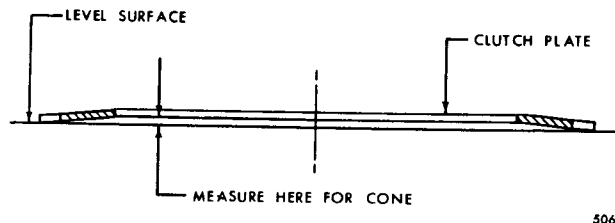

Fig. 4-4. Method for determining cone of clutch plate
(1) Inspect the friction-faced plates for burs, imbedded metal particles, severely pitted faces, excessive wear, cone, cracks, distortion, and damaged spline teeth. Remove burs, using a soft honing stone. Replace plates which have other defects.
(2) Inspect steel plates for burs, scoring, excessive wear, cone, distortions, imbedded metal, galling, cracks, breaks, and damaged tangs. Remove burs and minor surface irregularities, using a soft honing stone. Replace plates which have other defects.
(3) The amount of cone is determined by measuring the distance between the inside diameter of the plate and a level surface (fig. 4-4). When assembling a clutch pack, soak clutch plates in type C 2 oil for at least 2 minutes and make sure that each plate is installed so that the cone is in the same direction as the adjacent plates. (Refer to wear limits chart in Section 8 for maximum allowable cone.)